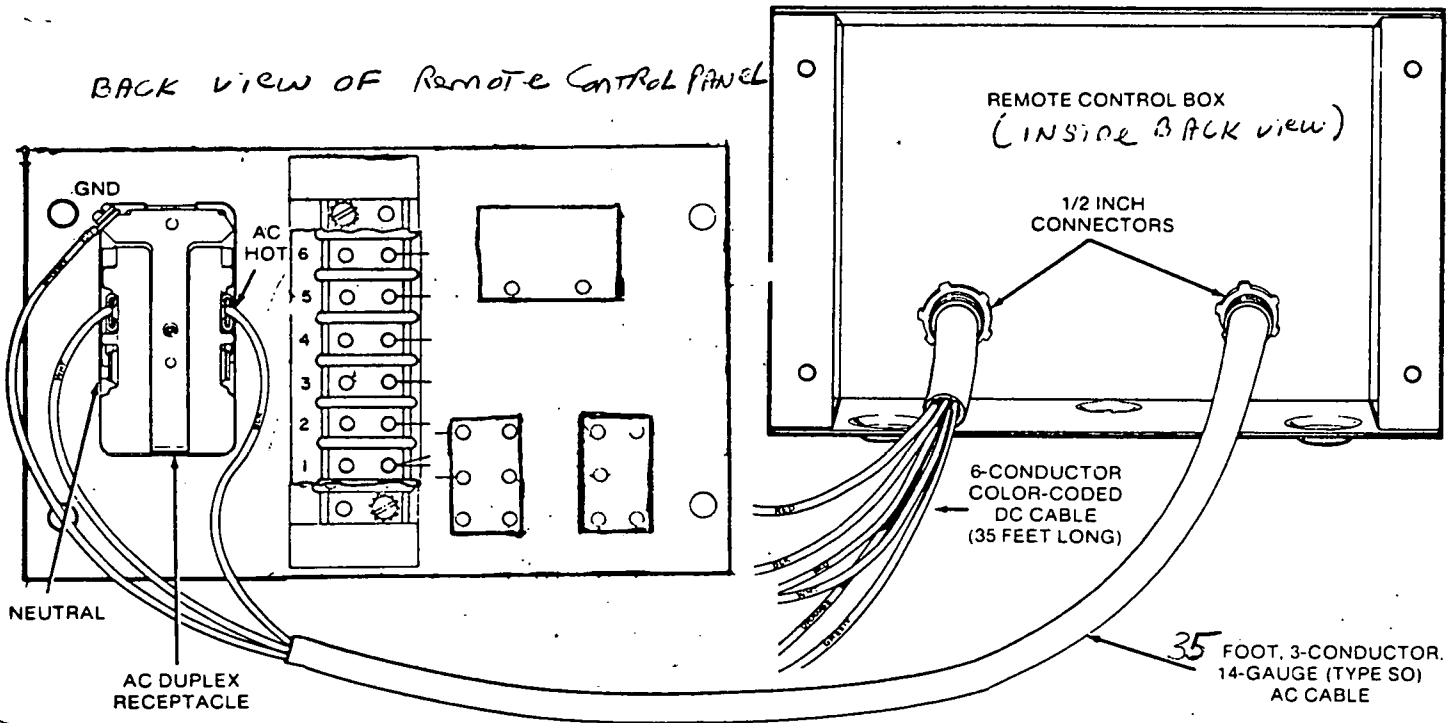

FIGURE 20. Remote Starting Panel Wiring Connections
1. A 1/2 inch water tight strain relief connector should be used on both the DC and AC cables when cables enter the truck cab, luggage compartment etc. A Romex connector should be used on both cables at point of entry into remote panel as shown in Figure 20.
3. Install two blade-type terminals, one on the black and one on the white conductor of the AC cable. Terminals are identified in Figure 20.
5. Connect the black conductor to the AC Hot (gold contact) terminal of the duplex receptacle as shown in Figure 20.
6. Connect the white conductor to the AC neutral (silver contact) terminal of the duplex receptacle as shown in Figure 20.
7. Connect the green ground conductor with spade terminal to the ground screw on top corner of receptacle as shown in Figure 20.